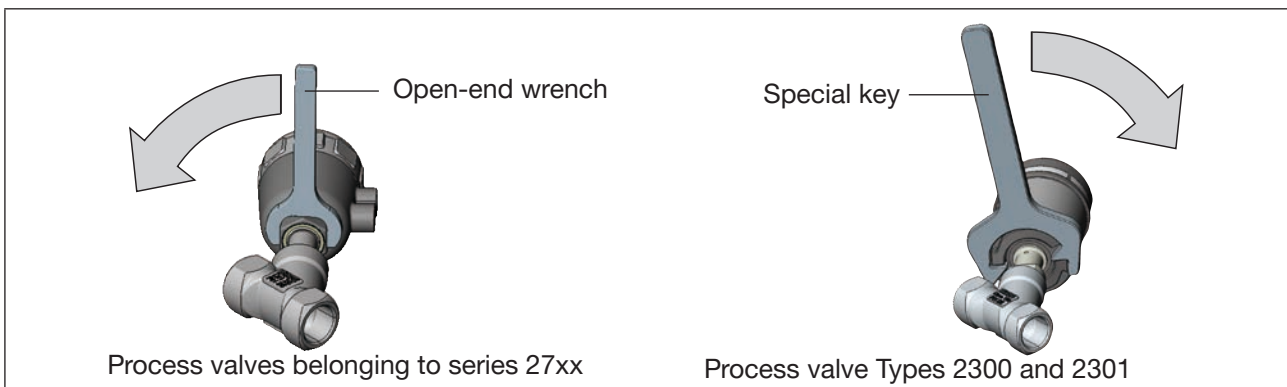

Figure 23: Specified direction of rotation and tool for turning the actuator module
▶ The actuator module must only be turned in the specified direction (see Figure 23)!